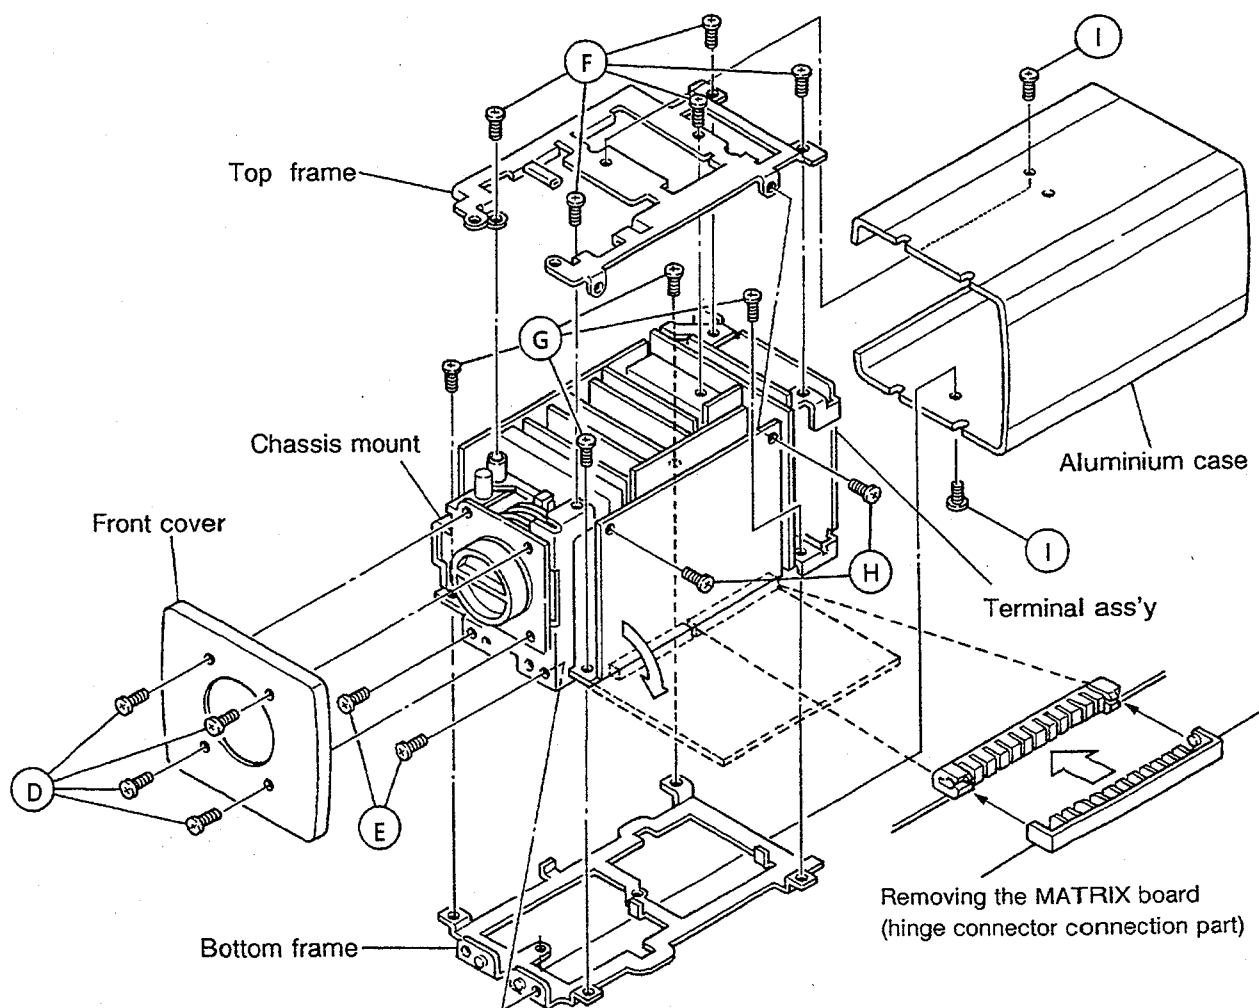

Fig. 2
- (1) Remove the two screws of ① shown in Fig. 2.
- (2) It can be removed by pulling toward the terminal direction.
- (1) Remove the four screws of ② shown in Fig. 2.
- (1) Remove the five screws of ③ and two screws of ④ shown in Fig. 2.
- (1) Remove the four screws of ⑥ shown in Fig. 2.
- (1) The MATRIX board can be opened in the outside (arrow) direction by removing the two screws of ⑦ shown in Fig. 2. The board can be removed by opening further.